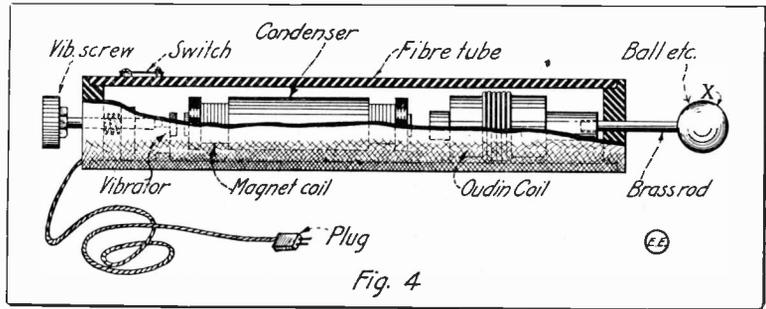
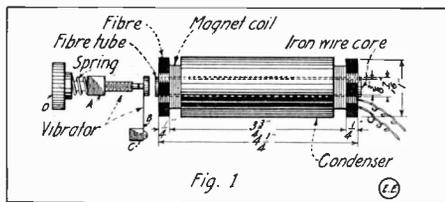

Fig. 4
Fig. 1
**M**OST High Frequency apparatus is more or less bulky in its make-up, and such a set, which is complete and capable of exciting medium size X-ray tubes, as well as therapy or treatment tubes and so small that it is all contained in a fibre tube about 1 1/4" by 7 1/2", is of more than passing interest to us. This description covers such a set, which is adapted to operate on 110 volt A. C., 40 to 120 cycles or direct current, universally. The general arrangement is seen at Fig. 5. The set comprises a vibrator of extra sturdy type, with its magnet coil, seen at Fig. 1, in detail; an Oudin high frequency coil illustrated at Figs. 2 and 3, and a condenser, with mica dielectric, which is wrapped around the vibrator coil, as seen at Fig. 1. The assembly is shown at Fig. 4.
Referring to the details, the vibrator is indicated at Fig. 1, and the magnet coil is made up of a fibre or cardboard tube 3/8" in diameter by 4 1/4" long, surmounted by two cheek pieces of round
When the Oudin secondary has been completed, it is covered with three to four layers of one mil mica and the Oudin primary coil is wound on, directly in line with the secondary coil proper, and this consists of eighteen turns of No. 22 enameled magnet wire, wound on closely. The connections of these two Oudin windings are to be made quite carefully, and both coils should be wound in the same direction, as Fig. 5 plainly shows, and one end of the secondary connects to one end of the primary; P being the primary winding and S the secondary. This is, of course, an extremely small apparatus and the insulation must be kept at a high standard thruout, or the coils will break down. When the Oudin coil, etc., is placed in a fibre tube, as Fig. 4 shows, these parts are best impregnated by pouring in around them hot bee's wax, or paraffine wax. Sulphur may be used but is not recommended. This is the principle upon which some modern and larger high frequency machines are built giving as great as two foot spark lengths and more. A large field is opened up here to the experimenter, and this principle is used in making up also radio transmitting sets, and in these the secondary coil of the step-up transformer is not connected metallically with the primary coil at all,
being described, and the powerful brush discharge emanating from the ball terminal, seen at Fig. 4, which connects with the inner terminal of the Oudin transformer, is depended upon to fully excite treatment tubes or X-ray tubes connected to it. The cathode negative electrode of the X-ray bulb is connected only to the Oudin Coil Terminal X.
**ELECTRIC BLASTING MACHINE (Fig. 1)**—An electrical self-inductance coil, with a push button and battery arranged to fuse a fine wire and ignite powder charge.
**MEAT-BLOCK CLEANER (Fig. 4)**—A handy and compact motor-driven meat-block cleaner, having a fluted rotating tool for the purpose arranged under the base.